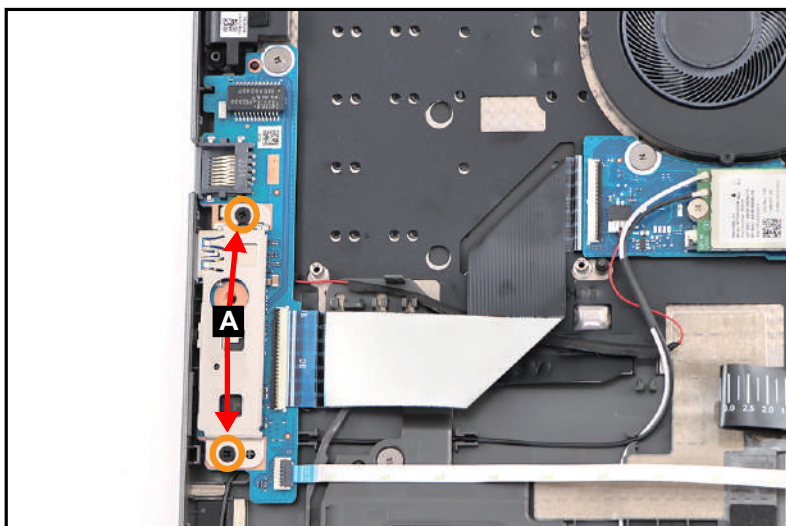

Figure 3-12. Smart Card Holder Removal
1. Remove two (2) screws (A) securing the left IO bracket (Figure 3-12).